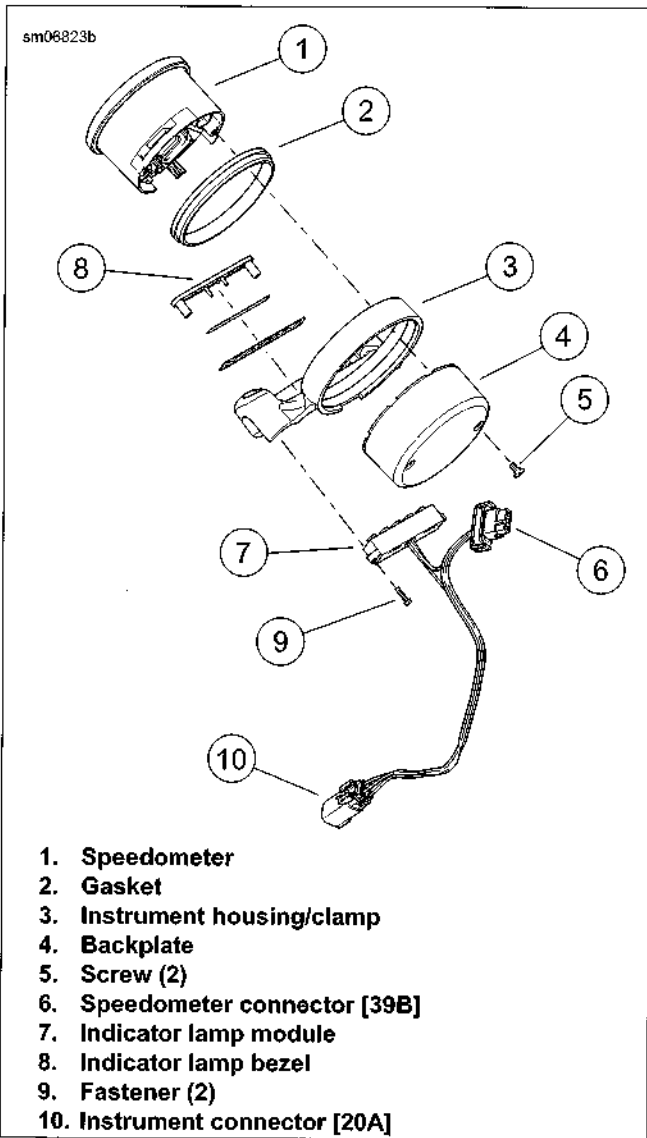

Figure 6-5. Speedometer: XL 1200X
1. See Figure 6-5. Install front gasket (2) on speedometer (1).
2. Thread speedometer harness and connector [39B] (6) through housing/clamp (3).